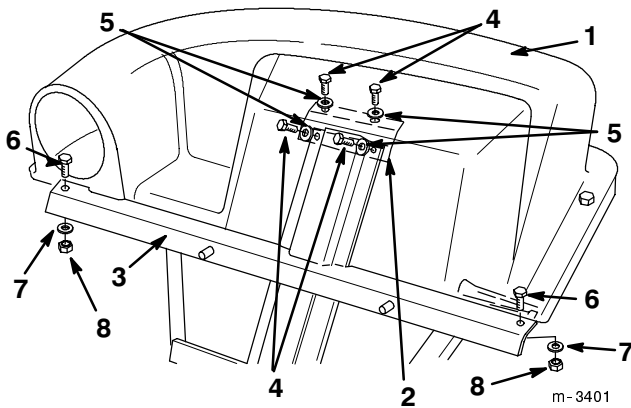

Figure 5
1. Secure the top of the mounting frame to the bag cover using the backup plate, (4) 5/16 x 1" bolts, (4) 5/16" washers, and (4) 5/16" locknuts (Fig. 5).
2. Secure the mounting frame with (2) 3/8 x 1" bolts, (2) 3/8" washers, and (2) 3/8" locknuts (Fig. 5)